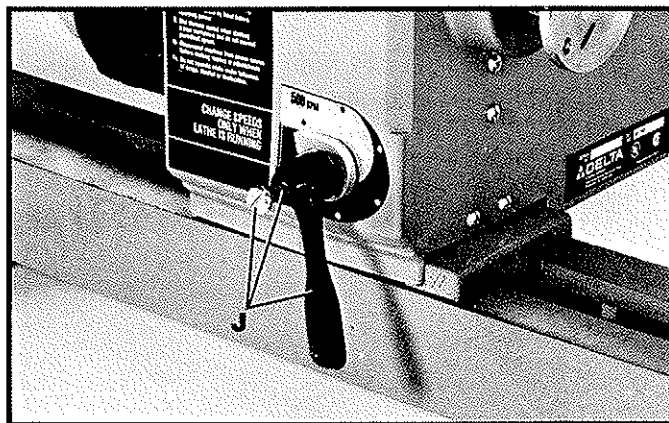

Fig. 3
2. Assemble the handle, spring and screw (J) to the end of the variable speed control shaft, as shown in Fig. 3.